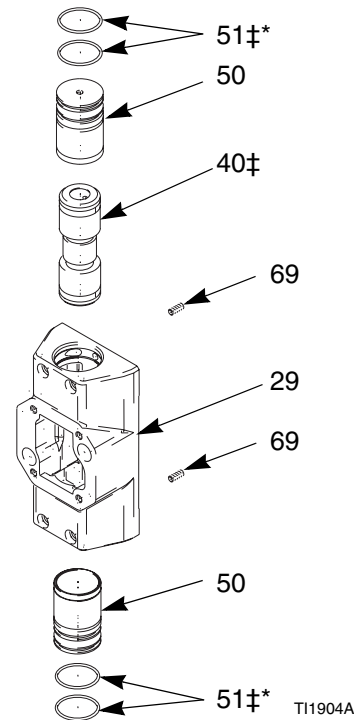

FIG. 7 Air Valve Piston Assembly
4. Remove the setscrews (69). Disassemble the piston assembly. See FIG. 7. Use screw (46) to remove the first bushing (50). Both the screw and the internal threads on the bushing are M6x1.